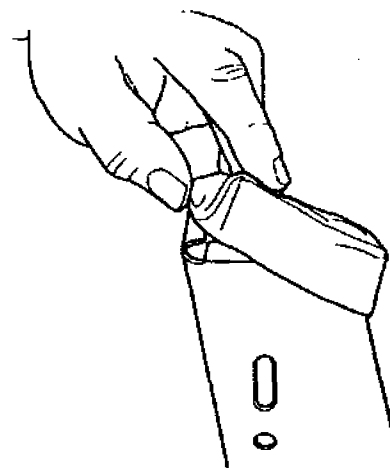

Fig. 17
23. Install a leg boot (97) on the end of each leg, as demonstrated in Fig. 17.